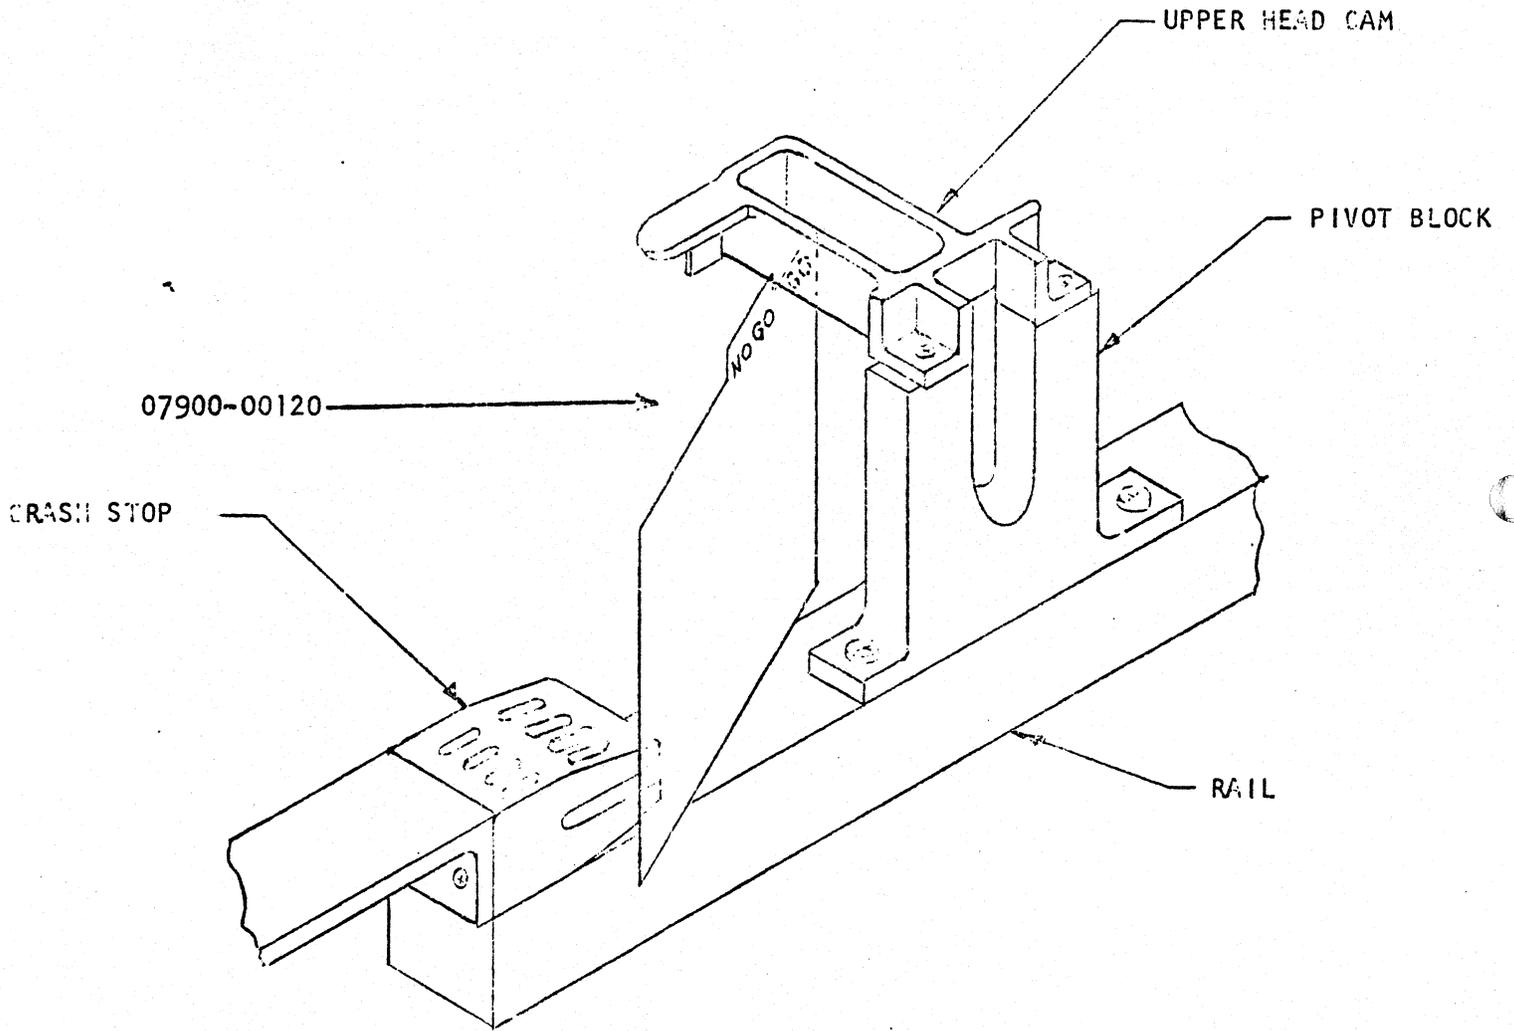

FIGURE 2
5. Install new upper head cam furnished with kit (P/N 07900-40044). Check height using Go-No-Go guage (P/N 07900-00120, Figure 2). Install shims (P/N 3050-0032) between upper head cam and the pivot block as required to obtain the correct height. Caution must be used to obtain the correct height to prevent head crashes.